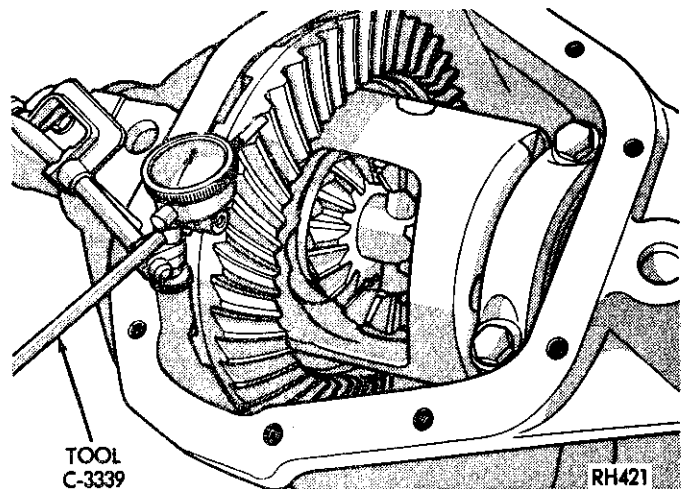

Fig. 85 Ring Gear Backlash Measurement
(19) Rotate assembly several revolutions to seat bearings. Measure backlash at three equally spaced locations with a dial indicator (Fig. 85).